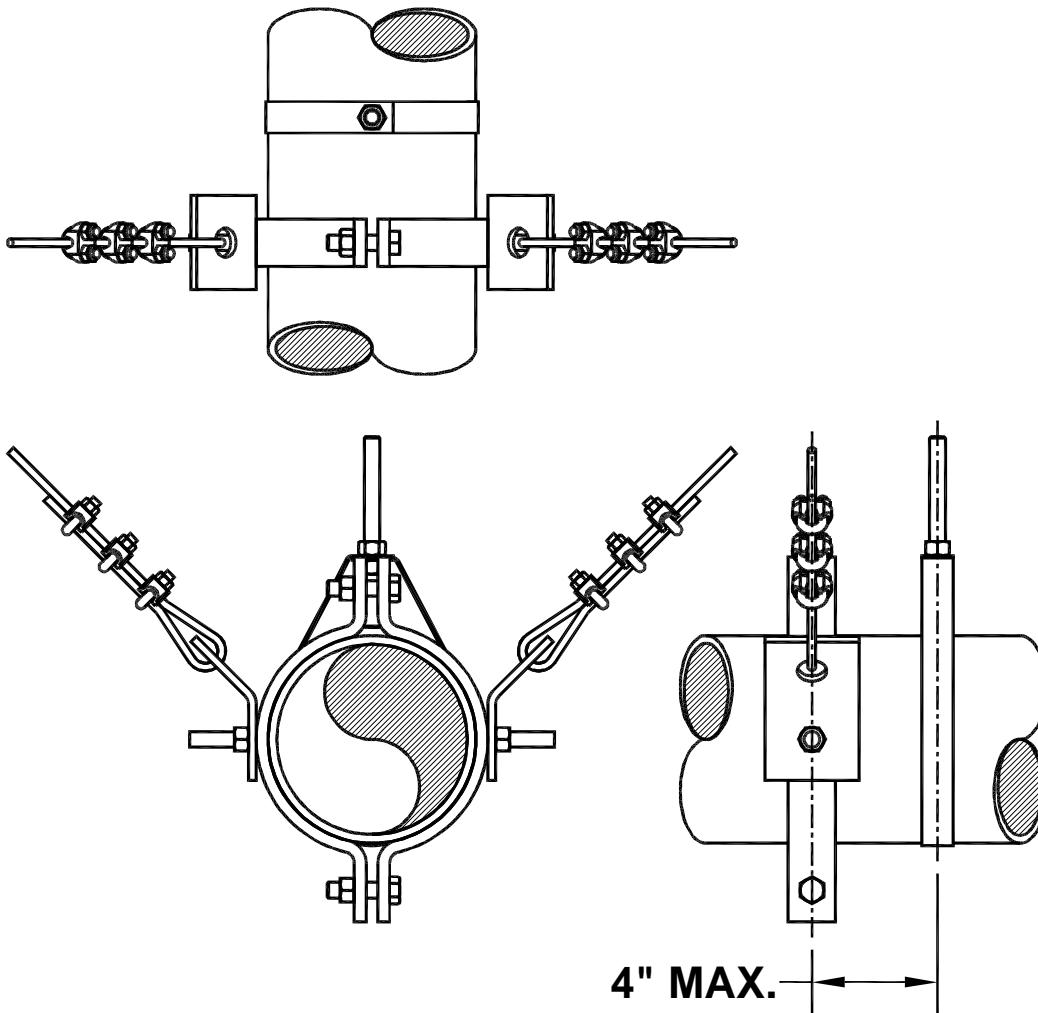
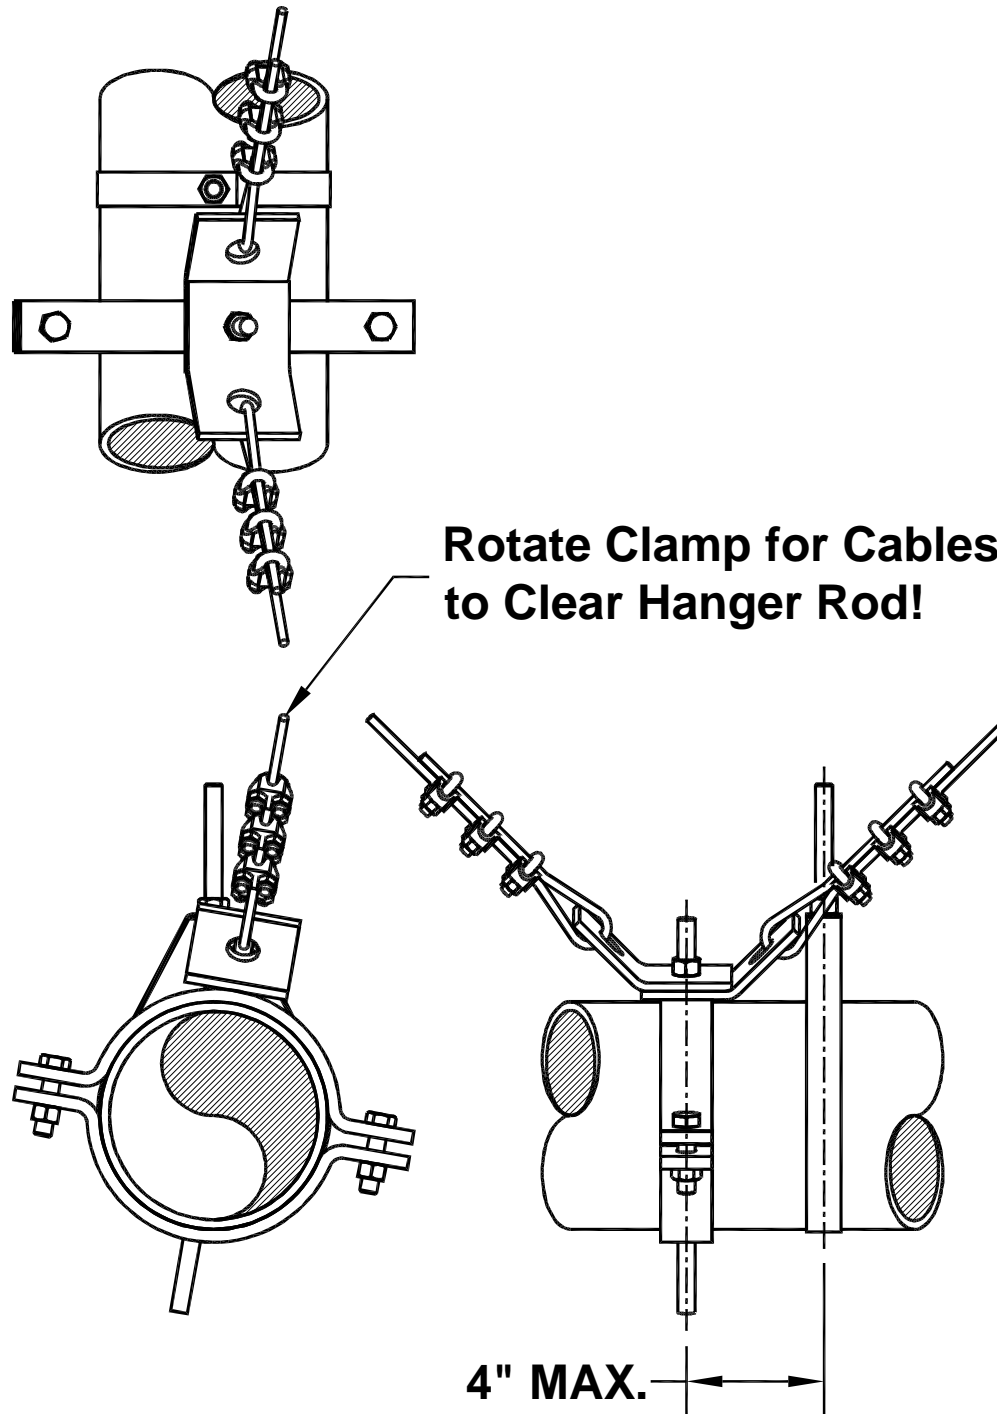
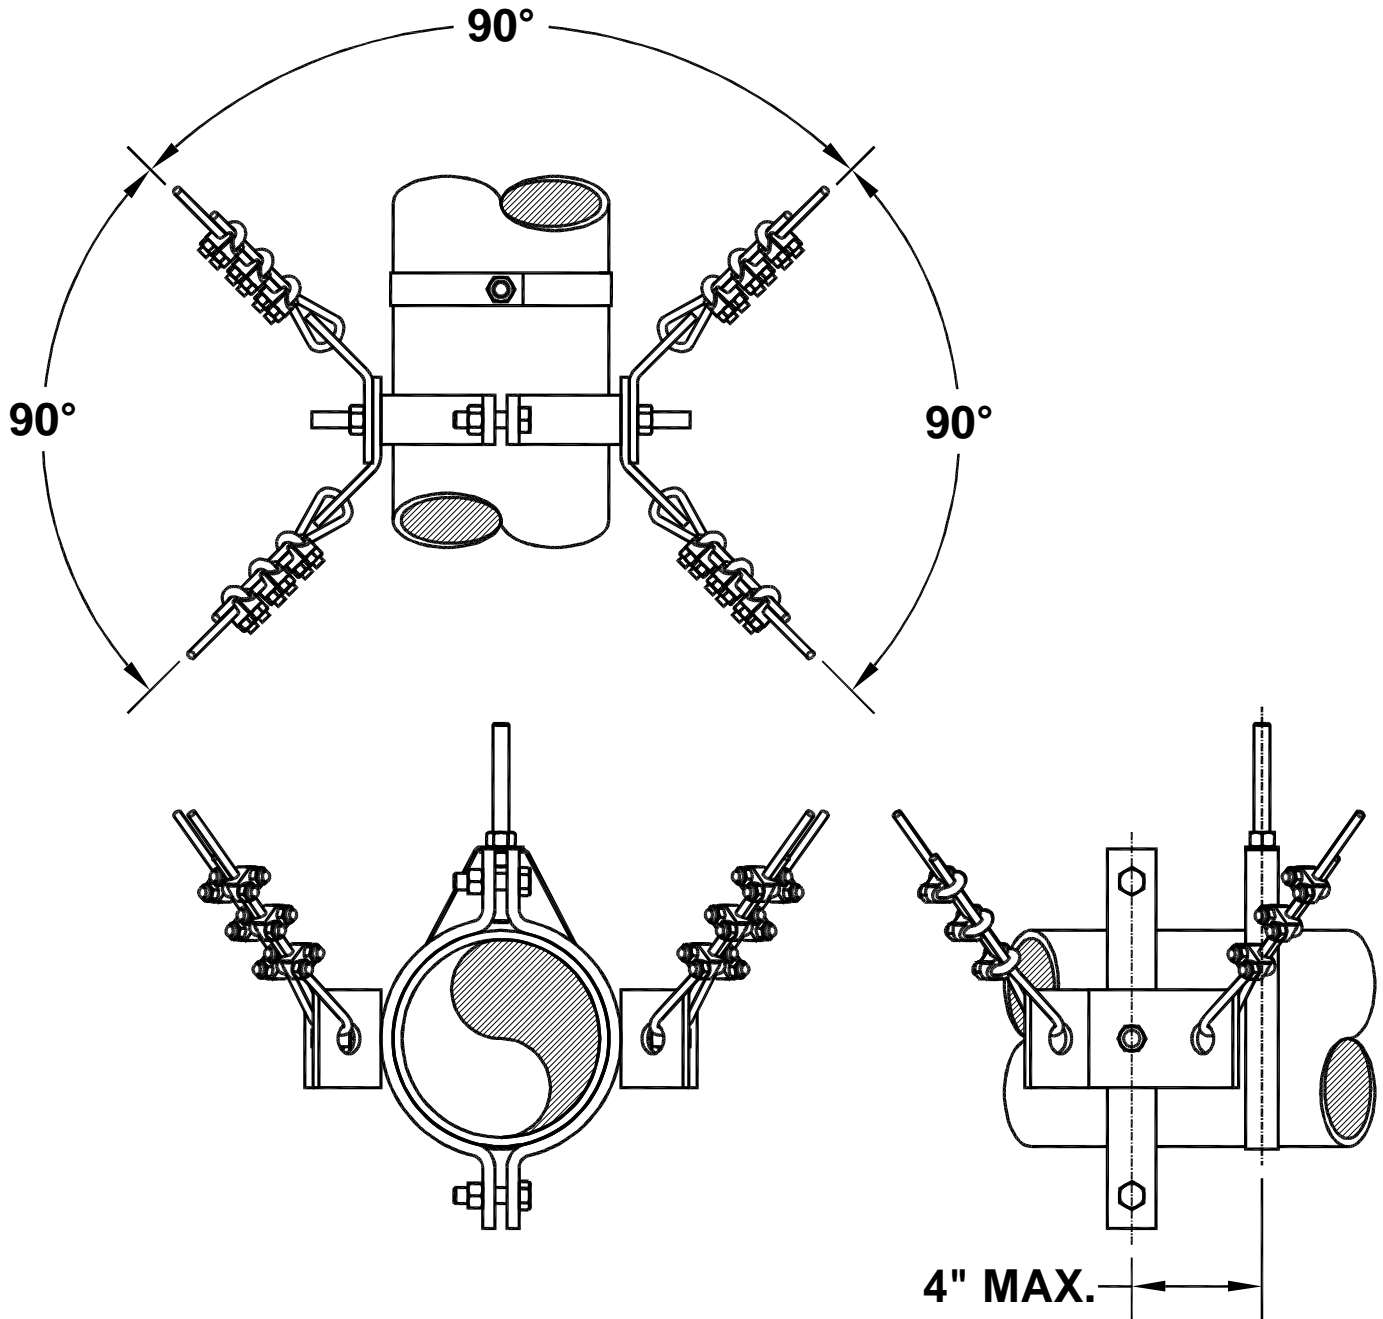

Figure I6-33; KSCC Brackets Attached to a KFPC Clamp (May be Used for Fire Protection Piping) – Transverse (T) Restraints
Figure I6-34; KSCC Brackets Attached to a KFPC Clamp (May be Used for Fire Protection Piping) – Longitudinal (L) Restraints
Figure I6-35; KSCC Brackets Attached to a KFPC Clamp (May be Used for Fire Protection Piping) – Combined Transverse and Longitudinal (TL) Restraints
NFPA-13 Section 9.3.5.11.1 requires that all seismic restraints for all feed and cross mains be attached directly to the pipe. Seismic restraints are not to be attached to the clevis hangers for fire protection piping unless the clevis hangers are specifically listed for this type of application. These types of connections may be made using KSCC brackets and the Kinetics model KFPC Clamp. Figure I6-33 shows the KSCC brackets and KFPC clamp used for a transverse (T) restraint, Figure I6-34 shows a longitudinal (L) restraint, and Figure I6-35 shows a combination transverse and longitudinal (TL) restraint.